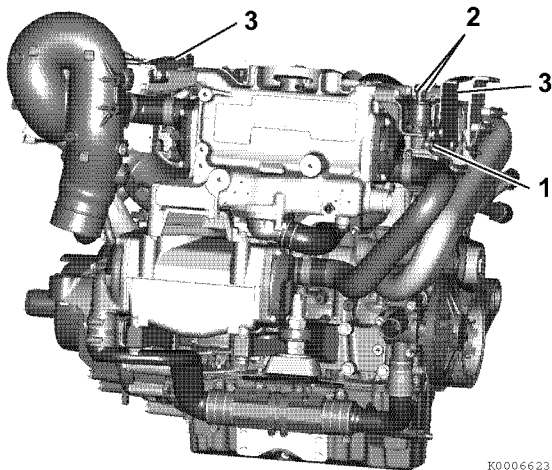

Figure 5-45
21. Install front and rear heat exchanger brackets (3, **Figure 5-45**).
22. Install oil pressure sender line banjo bolt (1, **Figure 5-45**) and new copper gaskets. Tighten securely.
23. Connect wires (2, **Figure 5-45**) to oil pressure sender.